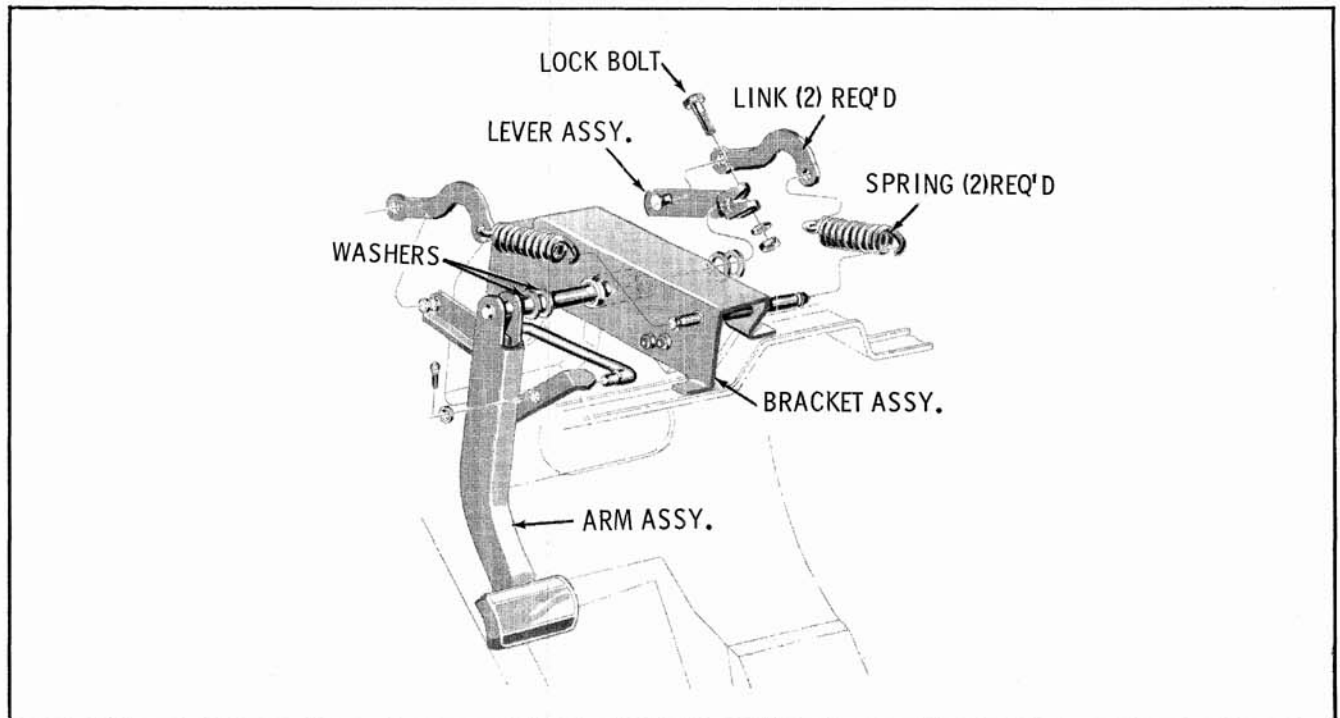

Fig. 7-92 Clutch Pedal Attachment
4. Assemble the springs and links and install as shown in Fig. 7-92.